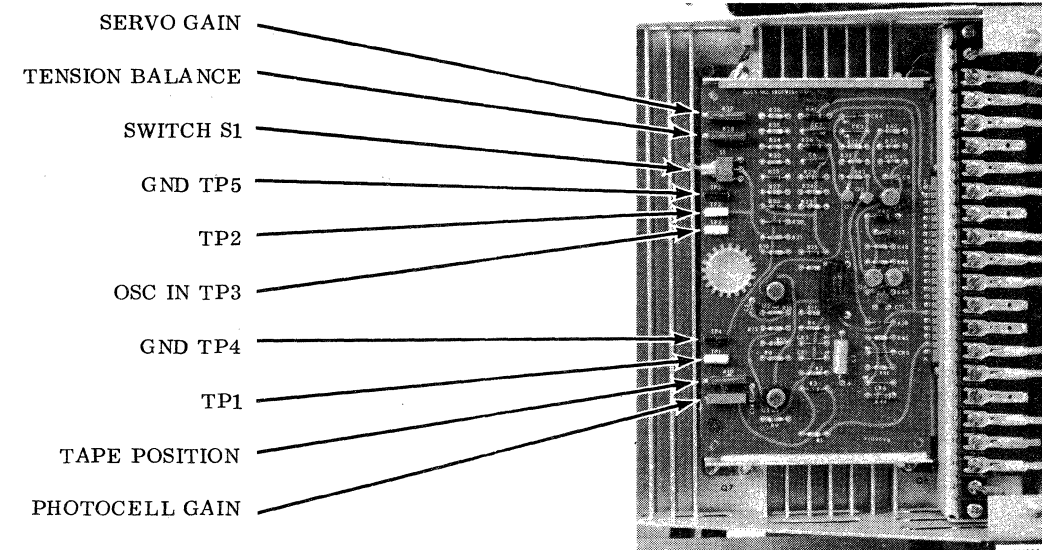

Figure 9-2. Reel Servo Adjustment Points
- In the stop/ready mode, while visually observing the upper reel, move switch S1 on the upper reel servo pwa (see Figure 9-2) down and up several times. If the tension balance adjustment potentiometer (R28) is set correctly, there is no movement of the tape reel; i.e., motor torque is equal and opposite to the effect of the vacuum drawing tape into the chamber. If no movement is observed, no adjustment is necessary. Set S1 to the up position and proceed to step g. If there is movement, proceed to step f.
To adjust the photocell amplifier of the reel servo, proceed as follows (refer to Figure 9-2):